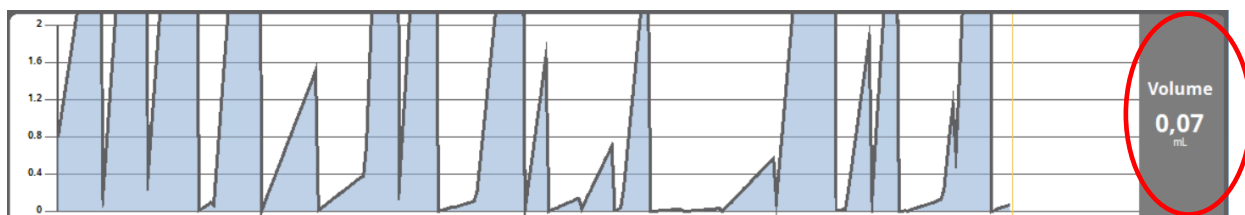

Fig 22
- The total infused volume (Fig 22);